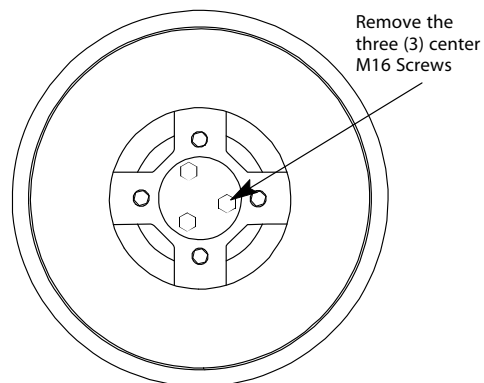

Figure 49 - M16 Screws
7. Remove the three (3) center M16 screws, and then remove the sheave retainer plate. See Figure 49.